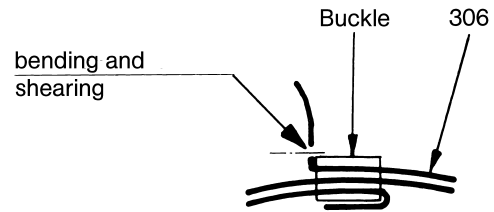

Figure 12: Bending and shearing of the clamping band.
- By means of a spanner or ratchet, turn pressure screw clockwise until the clamping band is sheared. **ATTENTION** If the clamping band is slightly lifted on the sheared side, this must be compensated for by careful realignment. Hammering or beating against the clamping band buckle is not permitted as otherwise, there may be a danger of sleeve damage. **Note:** In case of clamping bands of Hastelloy material, shearing with the clamping tool is not possible. After bending at the clamping band buckle, the clamping band must be sheared by means of sheet metal shears and the cutting edges deburred (please refer to Figure 12 below).
- When using clamping tool Pok-It II, bend clamping band (306) after clamping at the clamping band buckle by swinging the clamping tool so that the band cannot glide back through the buckle. After bending at the clamping band buckle, the clamping band must be sheared with sheet metal shears and the cutting edges deburred (please refer to Figure 12 below).
**ATTENTION** Check whether the clamping band is bent so that it cannot glide back through the clamping band buckle (please refer to Figure 12 above). If this was not achieved, the clamping band must be removed and replaced by a new one.
- Mount drive-side joint as described under Section 7.2.2.3 above against the drive shaft (118) and/or hollow shaft (125).
- In doing so, push coupling rod into the joint head of the drive shaft (118) and/or hollow shaft (125).
- Secure retaining sleeve (304) as depicted with a center punch mark.
- Mount cover sleeve (308), fill joint space with joint lubricant (305) and fix clamping bands as described.
- Insert gasket for discharge casing (511).
- Push discharge casing (504) over the rotor (401). In doing so, make sure that the precision-machined rotor is not damaged.
- Fix discharge casing (504) with hexagon screws (617), spring ring (619) and hexagon nuts (618) to the bearing bracket (110) and/or lantern (122).
- Tighten socket-head cap screw (620) and check by means of hexagon nut (626). **Note:** Prior to tightening the socket-head cap screw (620), attend to proper position of the connections in the shaft sealing housing (204) and/or mechanical seal housing (214).
- Mount vent line for mechanical seal (224).